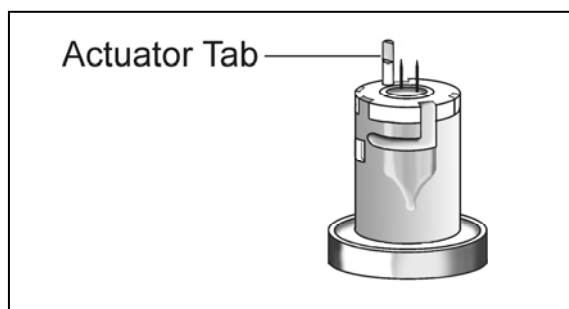

Figure 070-1: Drum Lamp Assembly
- Check the base of the Drum Light Assembly; ensure the actuator tab is present (refer to Figure 070-1).